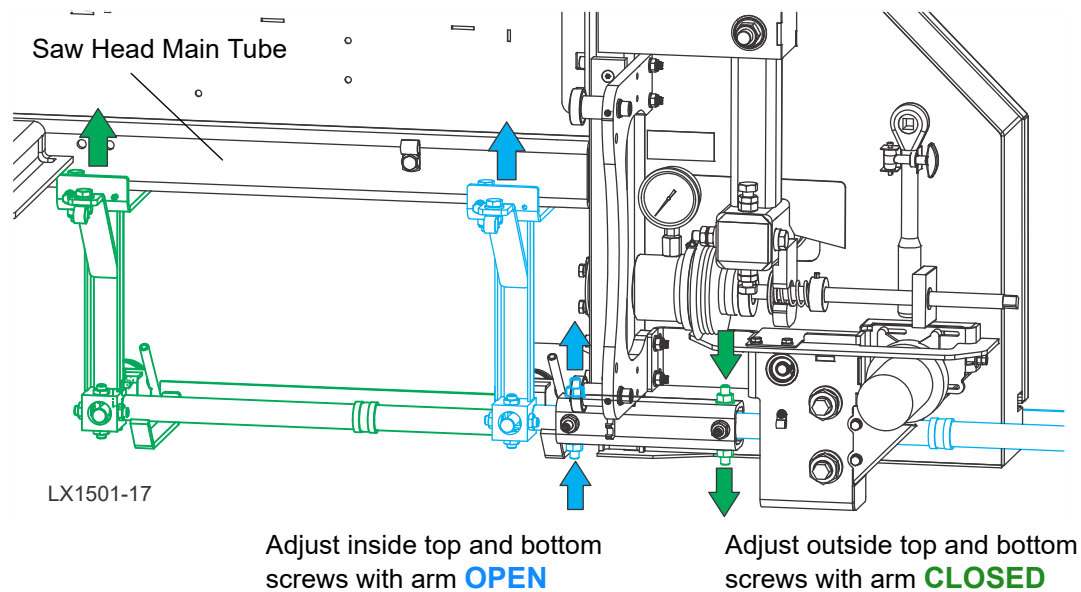

FIG. 8-1
1. Adjust the blade guide arm out to within 1/2" (13 mm) of fully open (blue/right position in Figure 8-1).
See Figure 8-1.
3. Adjust the blade guide arm in all the way closed (green/left position in Figure 8-1).